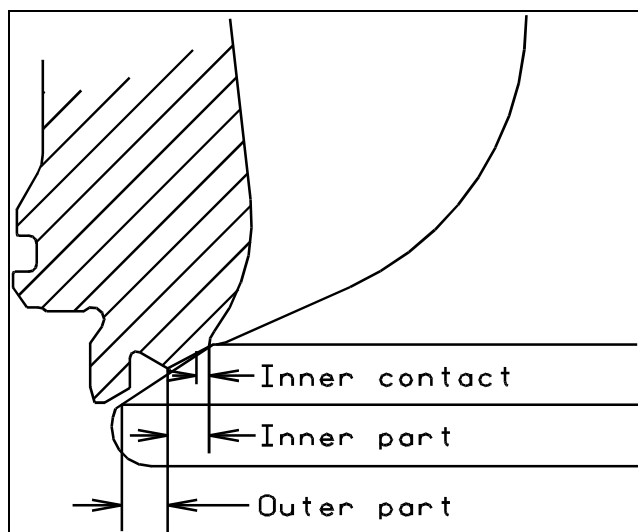

Fig. 1: Inner contact, and zone designation
Fig. 1 shows inner contact between the seats of the spindle and bottom piece, corresponding to slow/low-load/manoeuvring condition.
There must be no blow-by “tracks” across the inner part of the seat (*Figs. 1 + 4, and Photo 1*).
- Check the outer part of the seat for high temperature corrosion (*Fig. 1 and Photo 3*).